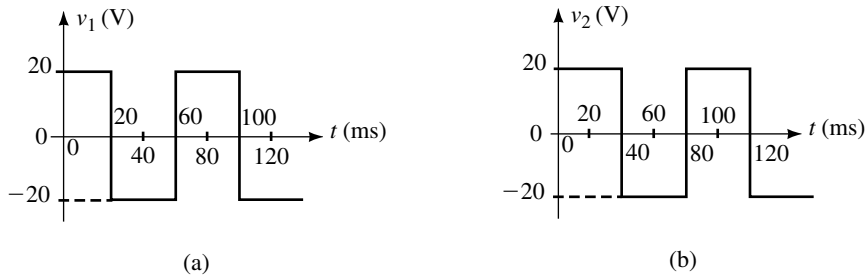

FIGURE 25-59
14. Repeat Problem 13 for the periodic waveforms shown in Figure 25-59.